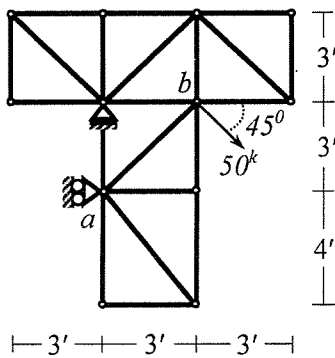

Fig.1
- Identify zero-force members of the 2D truss loaded as shown in **Fig.1**. 4. Use Stiffness Method to determine the displacements of joints **a** and **b** [Given: $EA/L = 500 \text{ k/ft}$].